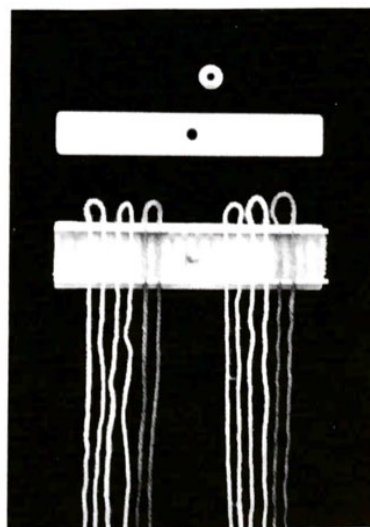

Fig. 49
- (a) Loosen the securing nut and remove the cover of the Vertical Pattern Knitter. (Fig. 49) Put the required number and lengths of contrasting colour yarn into each slot of the Vertical Knitter as shown in Fig. 49. Replace the cover and secure it by tightening the nut.
Lay the strands into the grooves of a Vertical Pattern Knitter, see Fig. 49.